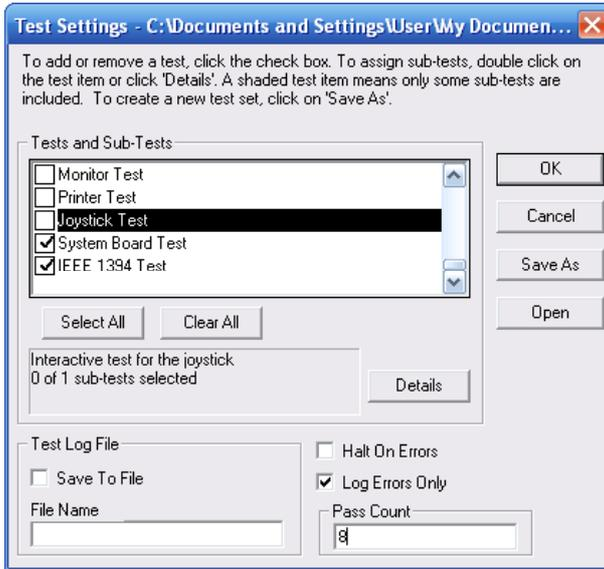

Figure 14-1
- For sets where no repair has been done a check must be made for intermittent faults. In PC Doctor, make sure that the script is repeated 8 times. See Figure 14-1. The test will take approximately 2 hours.